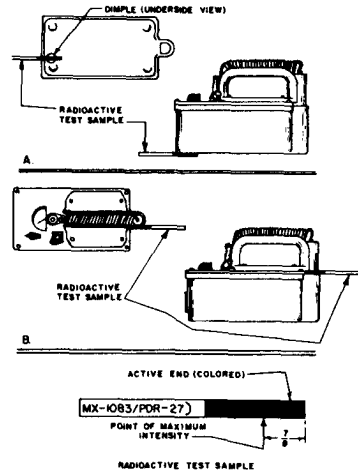

Figure 3-3. Initial **Test Setup** for **Radiacmeter**
(See figure 3-3.)
Step 5. Place the test sample in the dimple under the radiacmeter housing as shown in figure 3-3. The meter reading should be 10 to 30 mr/hr.